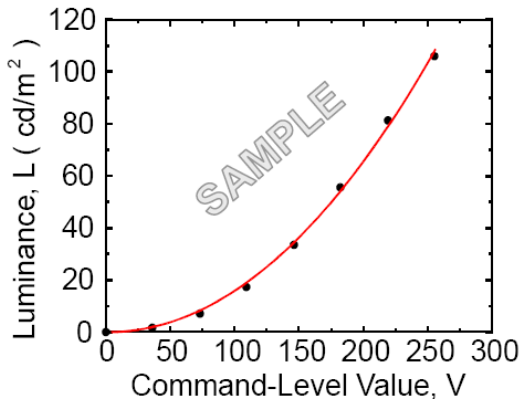
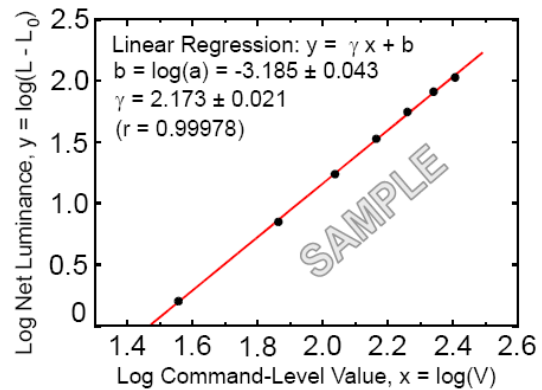

FIG. 6 Sample Luminance vs. gray scale (using a 256 bit gray scale)
FIG. 7 Sample Log-log plot of luminance vs. gray scale
8. Effective viewing angle is the angle at which the gamma shift of gray scale is lower than 0.3. For more information see FIG 6 and FIG 7.
The GAMMA we calculate from the log-log representation (FIG. 7)